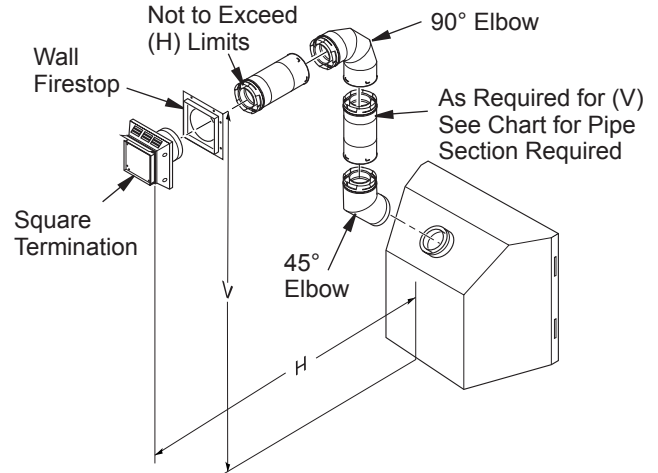

**Figure 14 - Horizontal Termination Configuration for Square and Round Terminations**
**IMPORTANT:** Horizontal square terminations require only inner portion of wall firestop. Horizontal installations using round termination require exterior portion of wall firestop available only in vent kit 01491 (see Figure 14, page 10).
1. Set the fireplace in its desired location and determine the route your horizontal venting will take. Do not secure the fireplace until all venting has been installed. Some installations require sliding the fireplace in and out of position to make final venting connections. Figures 14 through 18 on pages 10 and 11 show different configurations for venting with horizontal termination that will help you decide which application best suits your installation. Check to see if wall studs or roof rafters are in the path of your desired venting route. If they are, you may want to adjust the location of the fireplace.
Figures 14 through 18 show different configurations and alternatives for venting with horizontal termination. Each figure includes a chart with critical minimum and maximum dimensions which **MUST** be met. **IMPORTANT:** If using a venting configuration of only horizontal venting with no vertical run, a 1/4" rise for every 12" of run toward the termination is required.